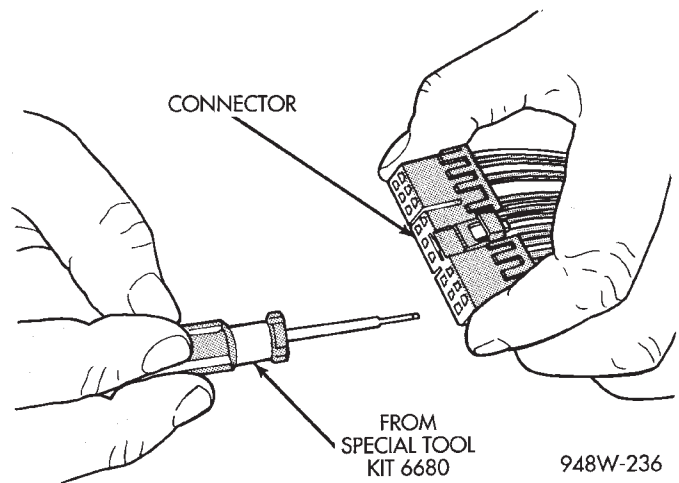
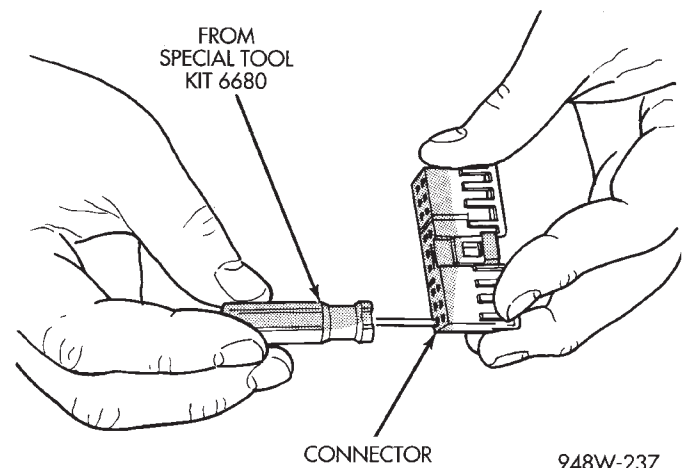

Fig. 16 Terminal Removal
Fig. 17 Terminal Removal Using Special Tool
(4) Position the connector locking finger away from the terminal using the proper pick from special tool kit 6680. Pull on the wire to remove the terminal from the connector (Fig. 16) (Fig. 17).
(5) Reset the terminal locking tang, if it has one.
(6) Insert the removed wire in the same cavity on the repair connector.
(7) Repeat steps four through six for each wire in the connector, being sure that all wires are inserted into the proper cavities. For additional connector pin-out identification, refer to the wiring diagrams.
(8) Insert the connector locking wedge into the repaired connector, if required.
(9) Connect connector to its mating half/component.